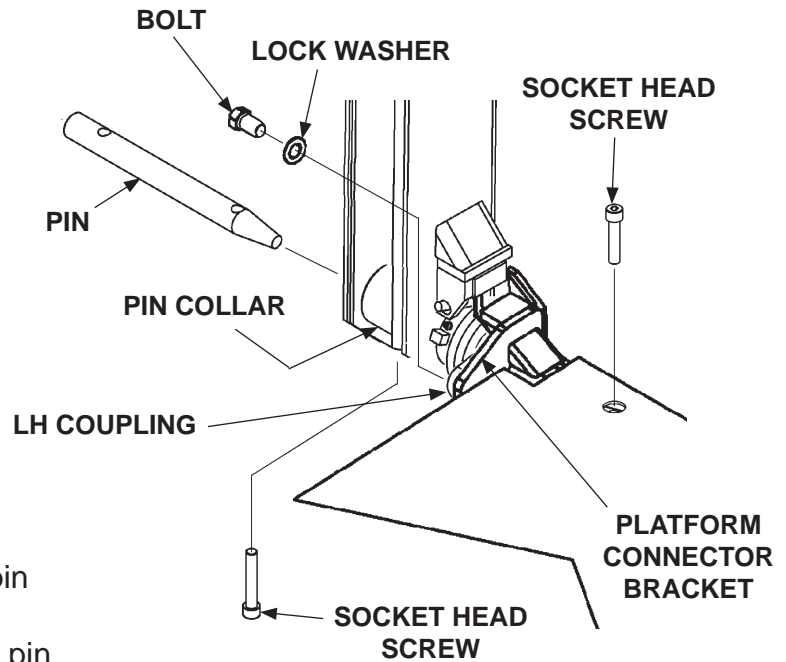

FIG. 10-1
20. Bolt LH coupling to LH platform connector bracket (FIG. 10-1).
21. Insert pin through LH coupling, pin collar and platform at LH runner (FIG. 10-1). Then, bolt pin to LH pin collar and platform (FIG. 10-1).